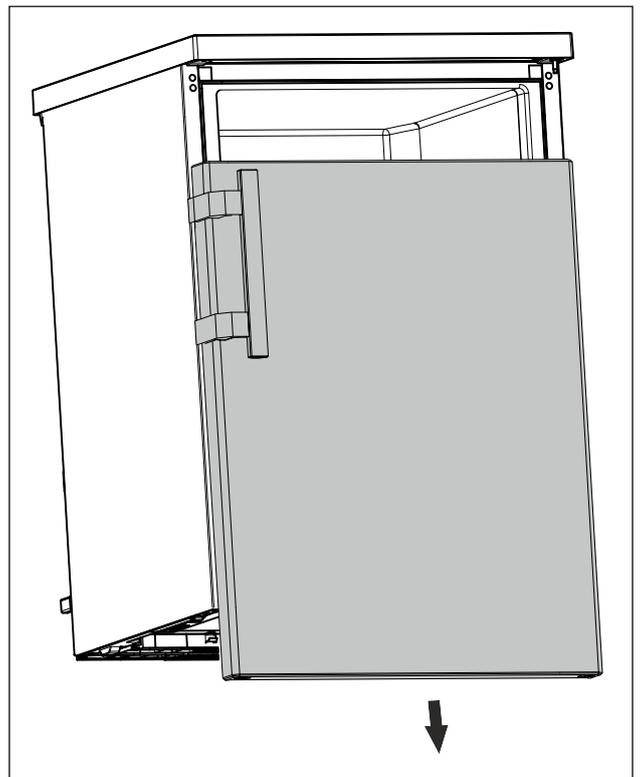

Fig. 9
- ▶ Remove the door downwards. (see Fig. 9)